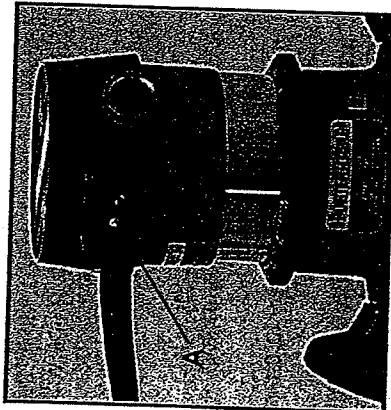

Fig. 7
When using the base with two handles, as shown in Fig. 7, the motor is started and stopped by setting the toggle switch (A), Fig. 7, in the ON or OFF Position.